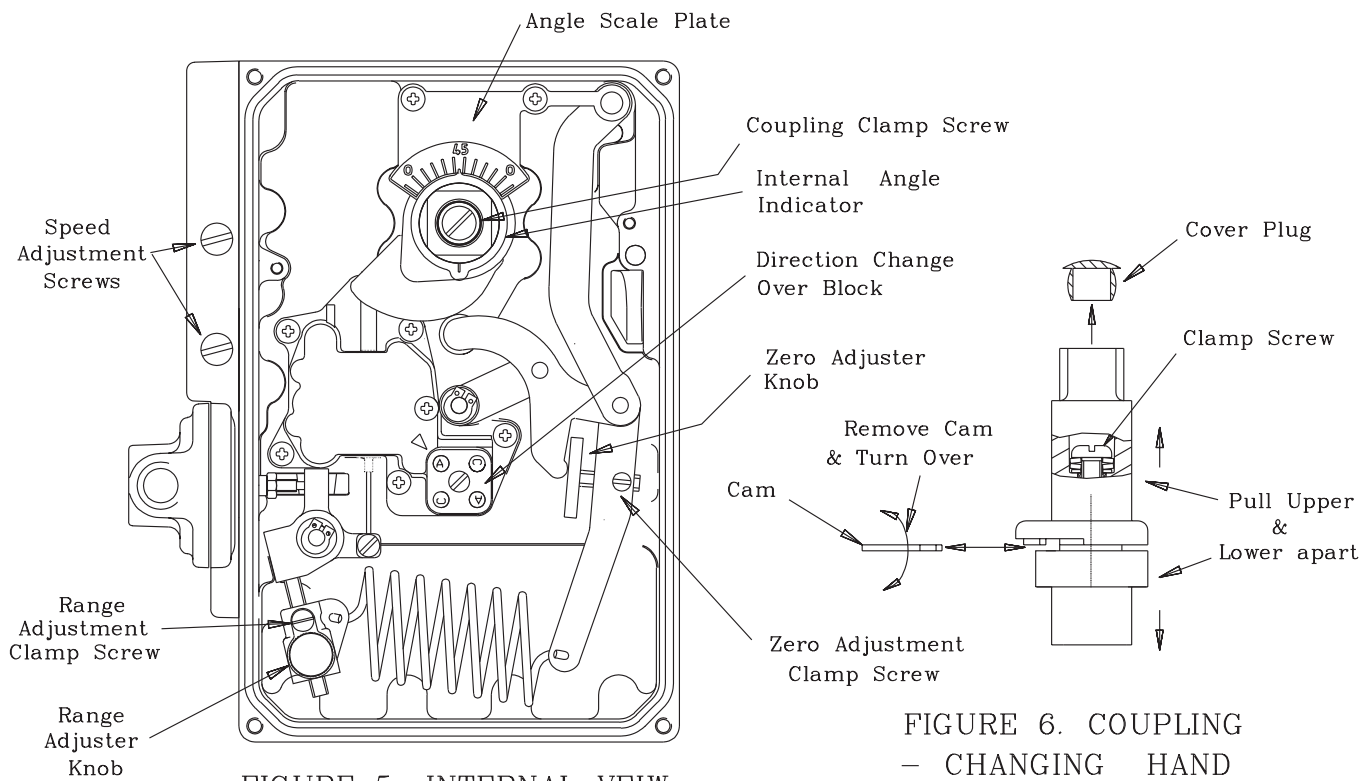

FIGURE 6. COUPLING
4.1.3 Pull the two halves of the coupling apart sufficiently to allow the cam to be withdrawn from its location peg as shown in figure 6. Flip the cam over and push it back into the slot between the two coupling halves and locate it back on the peg.
6.1.4 Observe the direction that the cam moves with a rising signal and that the retransmit strap is fitted to the correct slot in the lower coupling as marked (C & A for clockwise and anticlockwise respectively). If the direction is not as required then refer to section 6.2. If correct, place the coupling and retransmit assembly on the actuator square with one hand whilst pulling back the mechanism and two DIN plug wires with the other (refer to figure 6). If the actuator has been correctly positioned near mid-stroke, the cam follower will contact the cam at approximately half way.